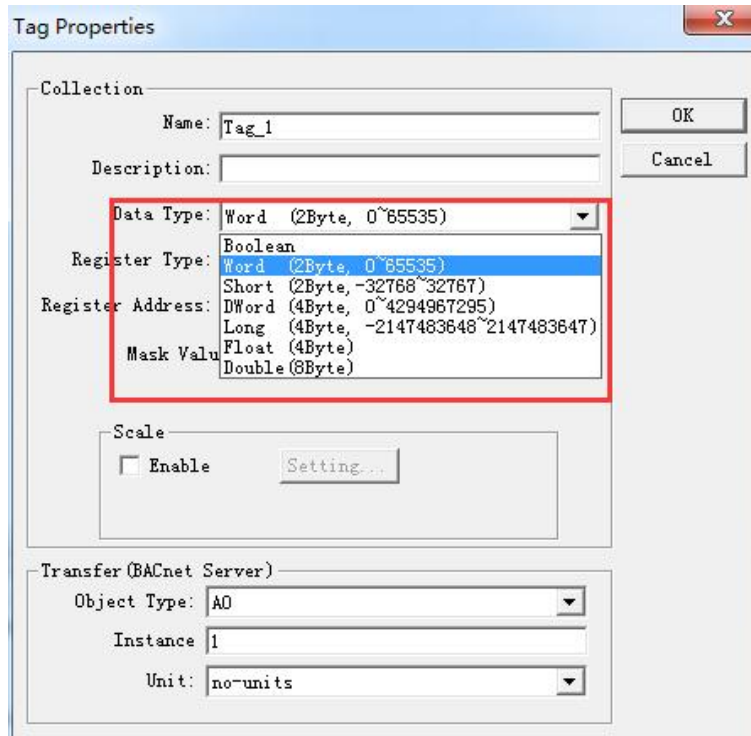

Figure 2-1-5 Date Type
- **Date Type:** Boolean\Word\Short\Dword\Long\Float and Double ,as the following Figure 2-1-5 shows.